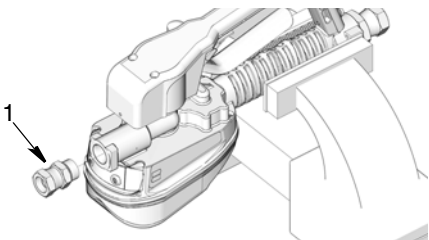

FIG. 3
3. Install fitting (1) in the outlet as shown in FIG. 3. Tighten fitting with a wrench.